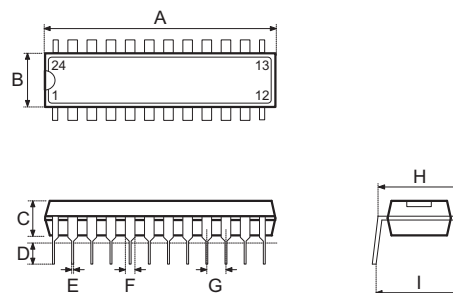

Fig2. 1/2 Lead Packages
- MS-001d (see fig2)
- MO-095a (see fig2)